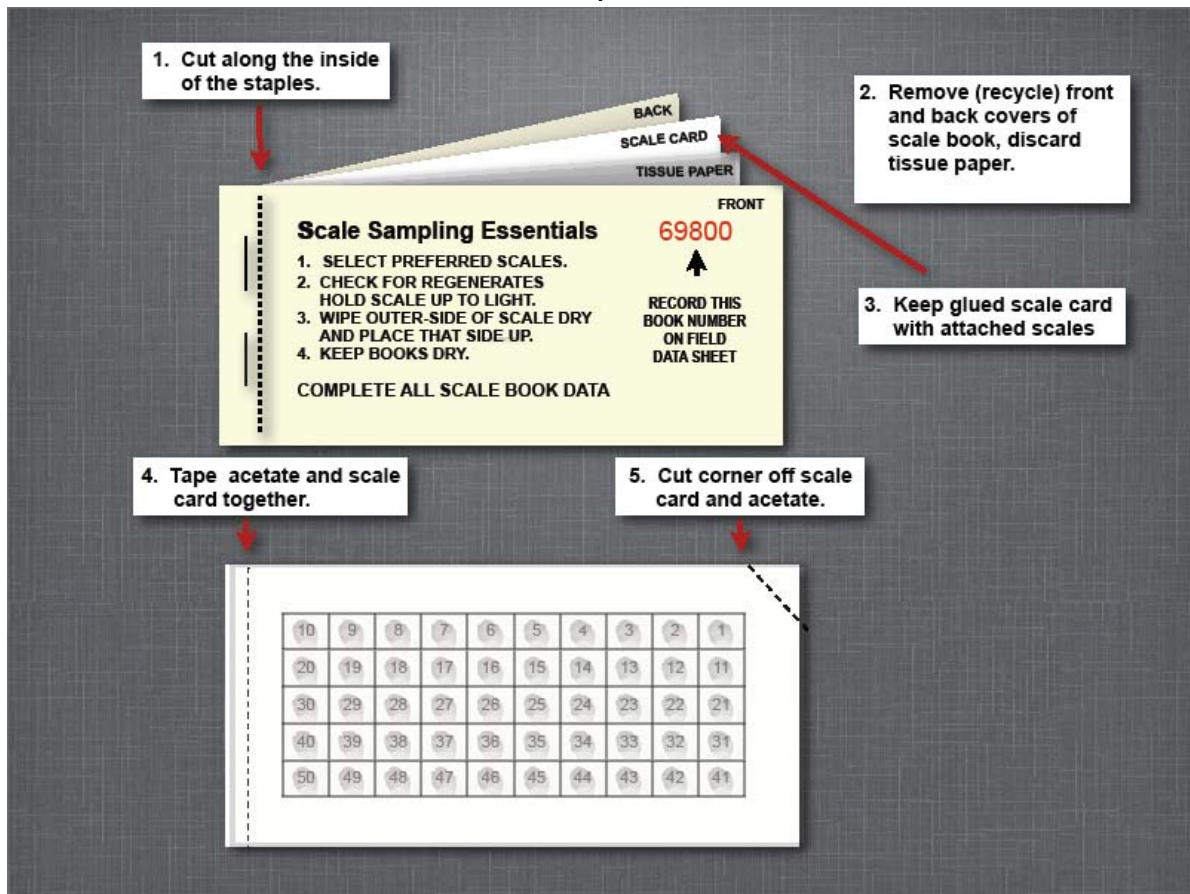

Fig. 3. Steps to prepare the scale book/card for pressing
- Scale book/card (Fig. 3)
**Note:** Each pre-numbered scale card is sandwiched between a front and back cardboard cover and a piece of tissue paper to protect the gummed surface of the scale card (Fig. 3).
- Detach the scale card from covers and tissue paper by cutting through all layers of the scale book with scissors just inside the stapled edge. Take care that information on the sample card is not cut off. Remove and discard the front and back covers and tissue paper insert. Keep the glued/gummed scale card with attached scales (bottom Fig. 3).
- Tape the acetate and scale card together on the cut side that was previously stapled using the recommended tape (Fig. 3). Cut away excess tape ends if necessary.